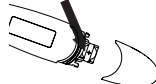

Figure 4
- Gently pull out plastic circuit board with battery chamber approximately 1 cm (slightly less than 1/2) (See Figure 4)